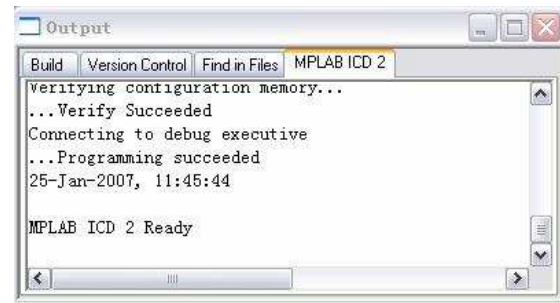

Figure 6-5 Programming Information
6) Implement menu command Debugger Program or the icon in the tool bar to program/burn the objective codes to the target MCU chip (Note: now the MCU cannot run in offline mode but has to be run under debugging mode), after programming it will show a message as in Figure 6-5.